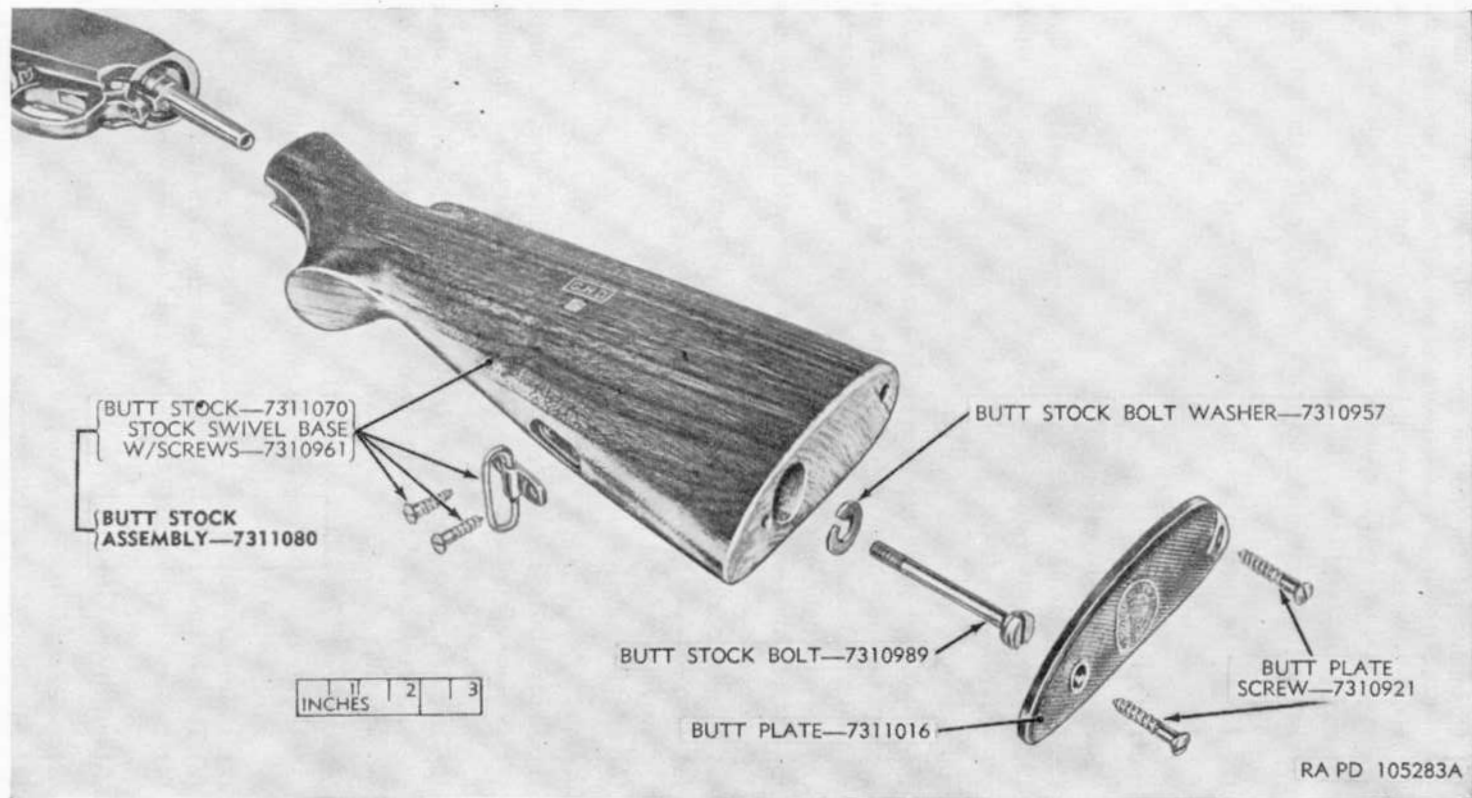

Figure 31. Butt stock group—exploded view.
a. Removal and Disassembly (fig. 31).
- (1) Remove the butt stock group as described in paragraph 35d.
- (2) Unscrew the two stock swivel base screws and remove the stock swivel base.
- (1) Replace all broken, worn, or otherwise unserviceable parts. Replace all missing parts. Remove burrs and rust as explained in paragraph 27e and f.
- (2) Repair butt stock as described in paragraph 29. If butt stock and stock swivel base are beyond repair, replace the butt stock assembly.
d. Assembly and Installation (fig. 31).
- (1) Install the stock swivel base on the butt stock with the two stock swivel base screws.
- (2) Install the butt stock group as described in paragraph 43a.
- (3) Replace unserviceable butt stock bolt and washer.
- (4) Replace unserviceable butt plate and butt plate screws.